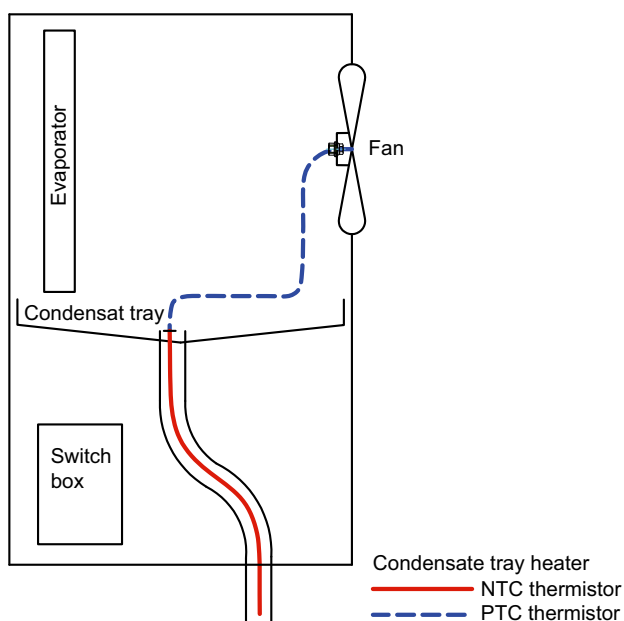

Fig. 1.1:
- 2) Install the supplied condensate drain heater (see Fig. 1.1 on pag. 1).